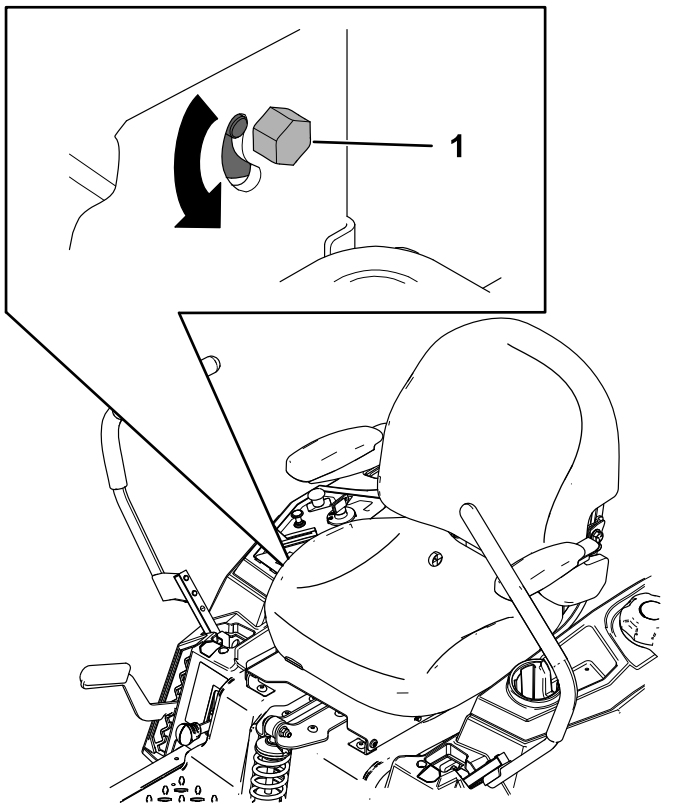

Figure 50
3. Locate the tracking-adjustment bolt near the motion-control lever on the particular side that needs adjusting (Figure 50).